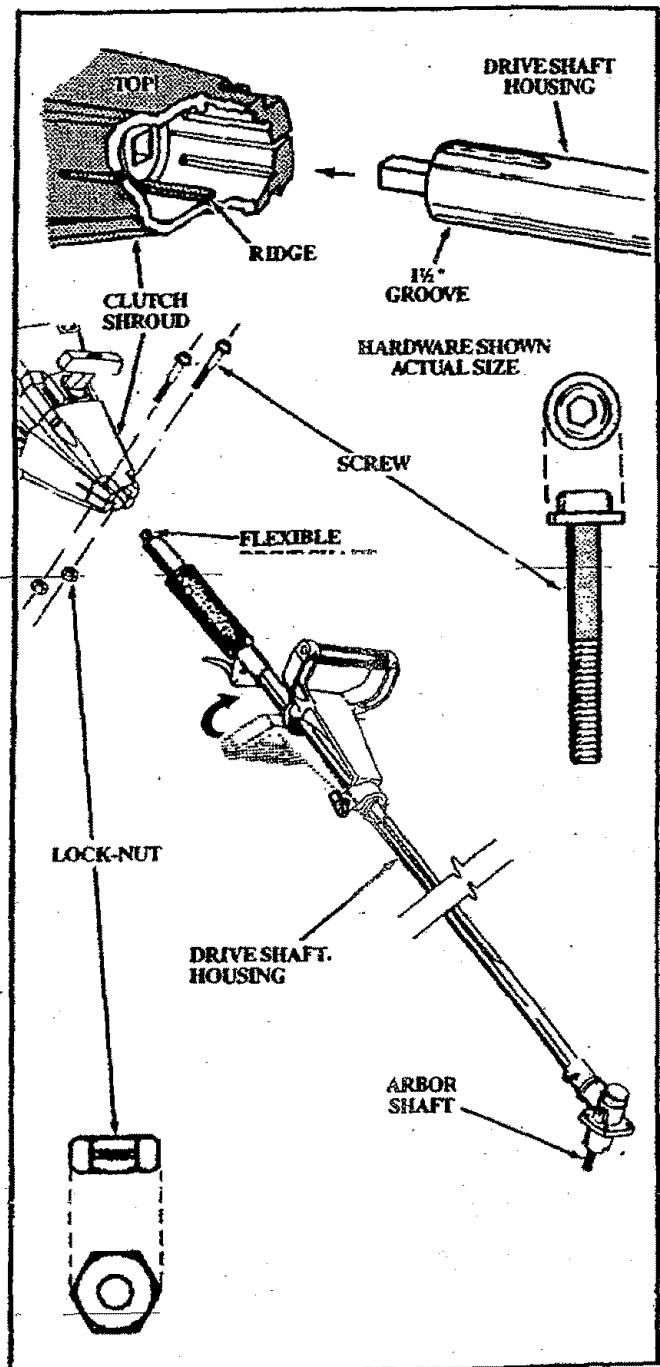

Figure 1
1. DRIVESHAFT HOUSING – Figure 1
- Place the two Screws (from the loose parts bag) into the holes on the Clutch Shroud as shown in Figure 1.
- Turn Handle around and position the Drive Shaft Housing with the Arbor Shaft down as shown in Figure 1.
- Firmly push the Drive Shaft Housing into the Clutch Shroud until it contacts the Foam Grip or is within 1/8 inch. Figure 1.